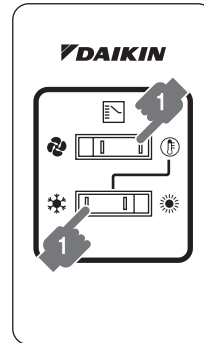

figure 8
**FOR SYSTEMS WITH COOL/HEAT SELECTOR (except RXQ series) (Refer to figure 8)**